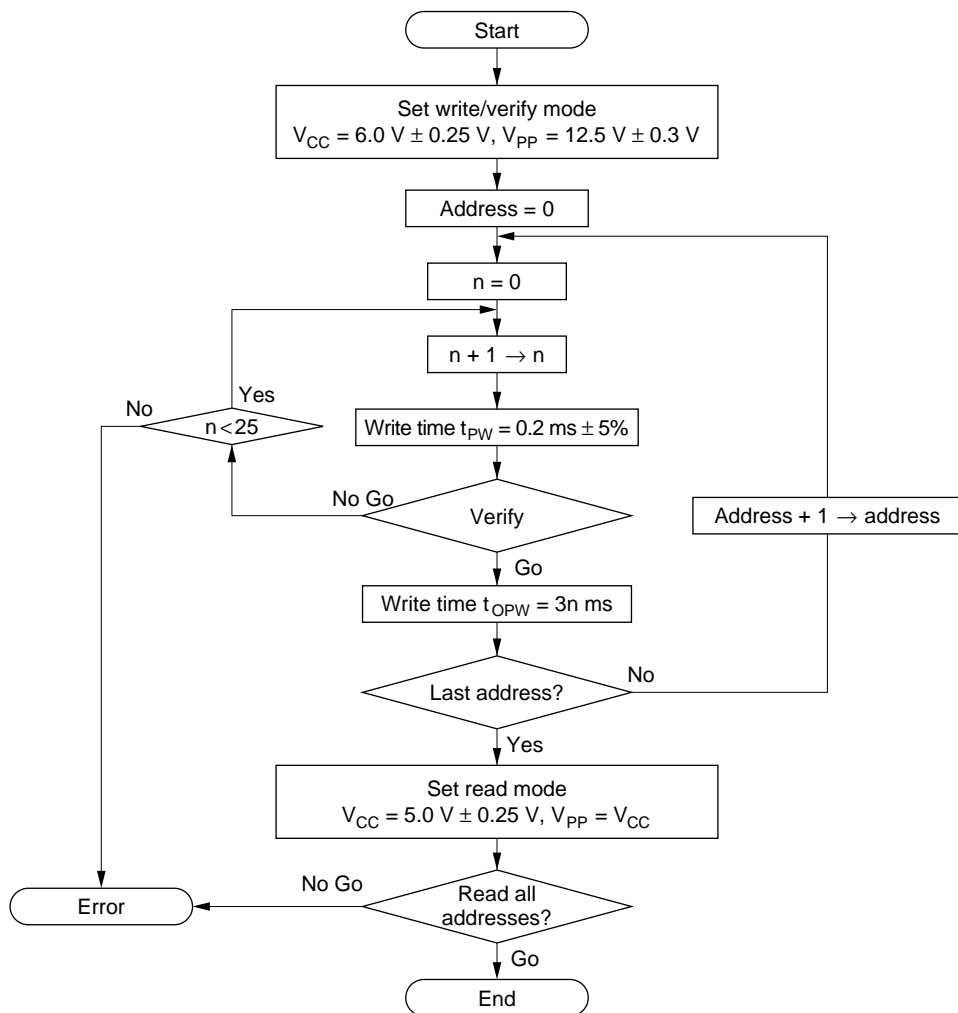

Figure 6-4 High-Speed, High-Reliability Programming Flow Chart
An efficient, high-speed, high-reliability method is available for writing and verifying the PROM data. This method achieves high speed without voltage stress on the device and without lowering the reliability of written data. The basic flow of this high-speed, high-reliability programming method is shown in figure 6-4.
3. t_{OPW} is defined by the value given in figure 6-4, High-Speed, High-Reliability Programming Flow Chart.